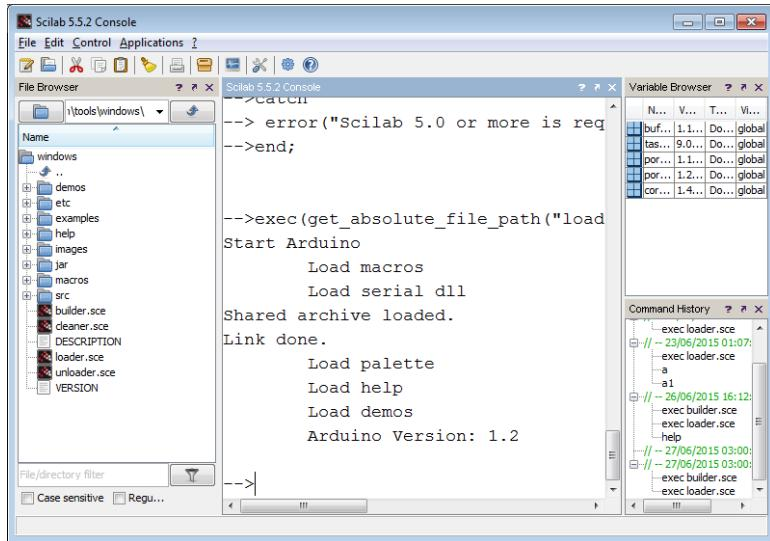

Figure 3.9: Output of loader.sce
6. Next, type the command, exec loader.sce - this will load the toolbox. This means all the new functions corresponding to the toolbox are loaded in the workspace. It will also make available new Xcos blocks, if any. The output of this command is as shown in Fig. 3.9. If you clear the workspace for any reason, you will have to execute this command once again3.